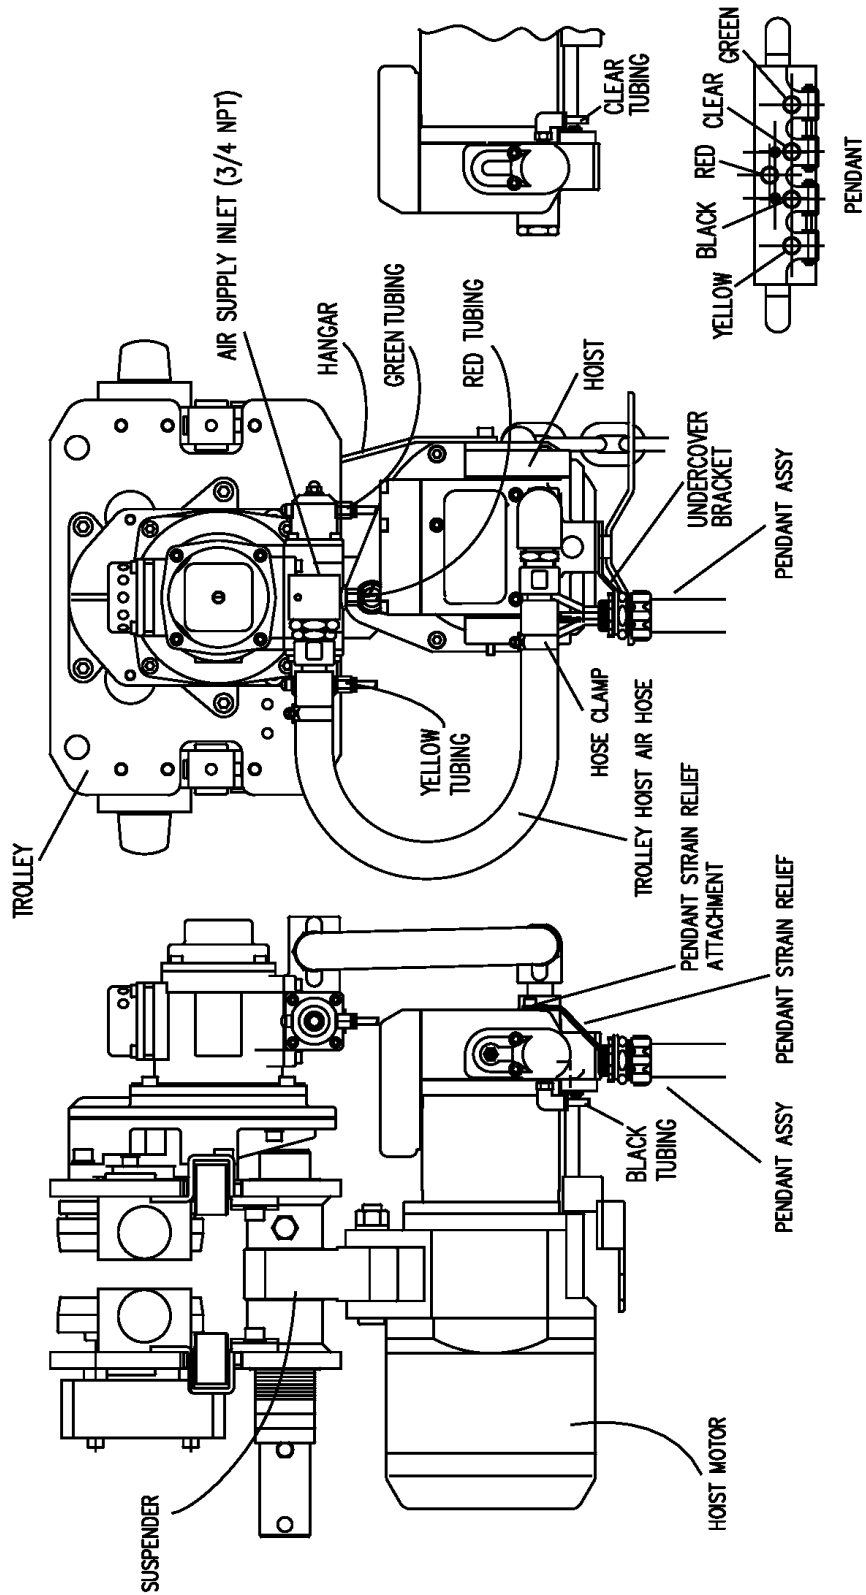
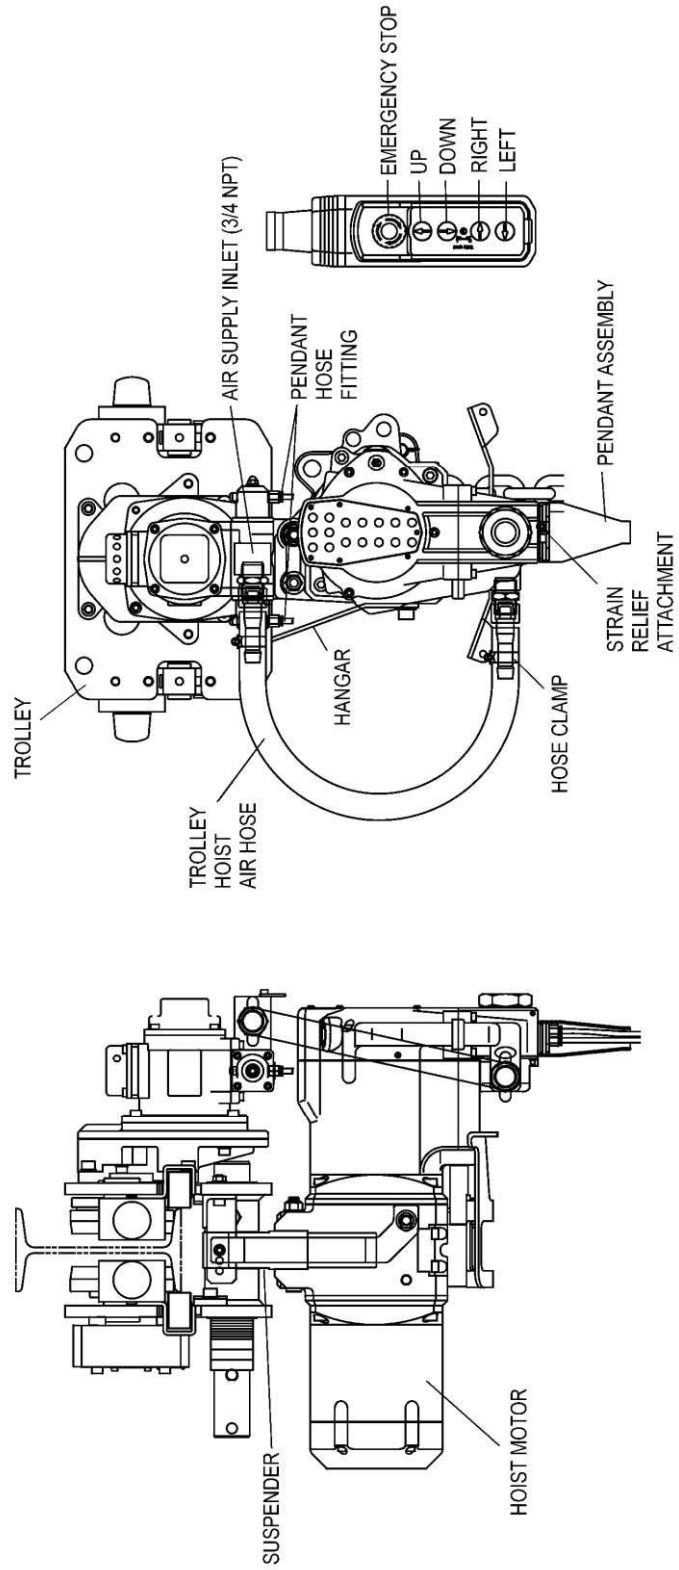

Figure 3-9 TCR Air Supply and Pendant Hose Connections
Figure 3-10 TCK Air Supply and Pendant Hose Connections
- 1) Refer to Figure 3-9 for TCR connections, and Figure 3-10 for TCK connections.
- 4) Insert the pendant assembly air hoses into the proper fittings on the trolley and the hoist. For TCR connections, follow the hose colors shown in Figure 3-9. TCK pendant hoses are labeled by function (U=Up, D=Down, E=Emergency Stop, L=Left, R=Right). Ensure that the hoses are fully seated on the barbed fitting and the hose clamps are tightened.